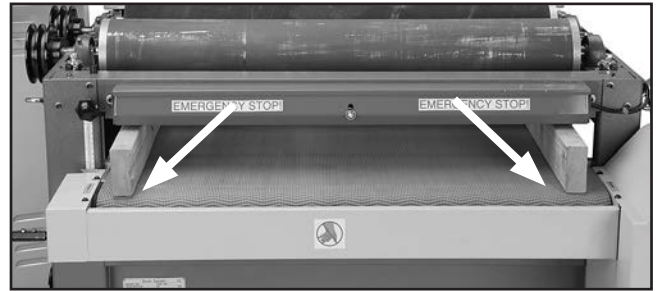

Figure 59. Gauge blocks positioned under the ends of the drums.
3. Place the gauge blocks (refer **Page 36**) on the conveyor table and position them under the drums, as shown in **Figure 59**.